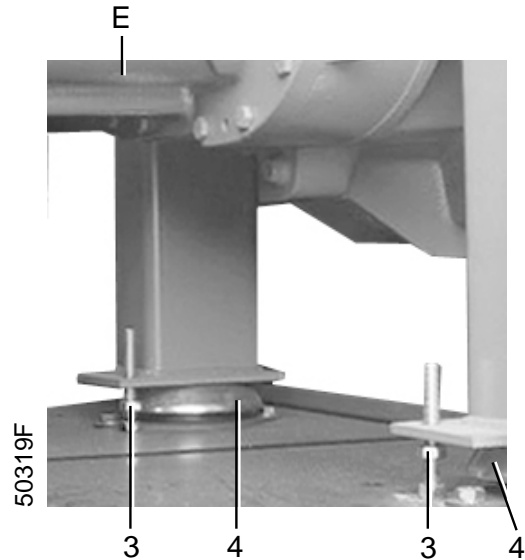
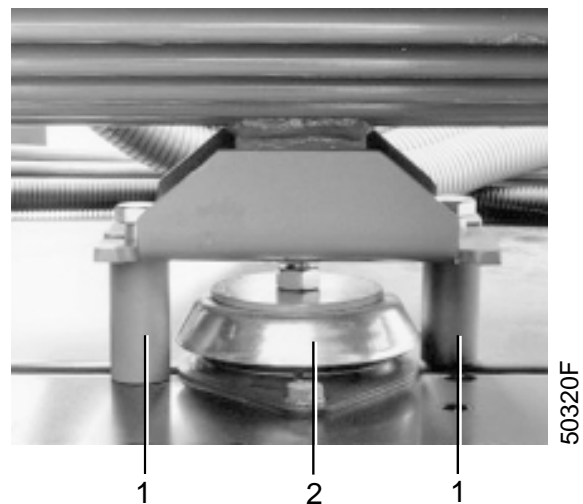

Fig. 11a Gear casing side
Fig. 11b Motor side
5. The gear casing supports and motor support are secured to the frame, immobilizing the vibration dampers during transport. Remove stud and nuts (3-Fig. 11a) of both gear casing supports as well as bushes (1-Fig. 11b) of the motor support.